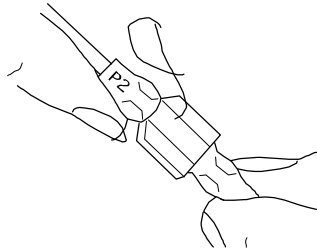

Figure 7 - Connecting P2 Wires
7. Insert the male port, which is on the black power supply wire (marked with P2), into the corresponding female port (marked with P2), (see Figure 7).